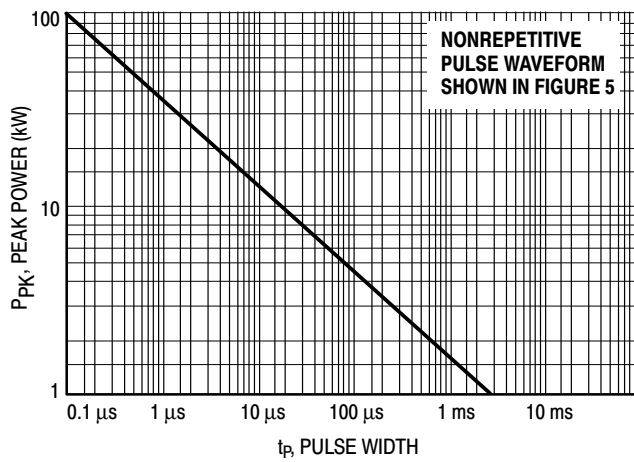
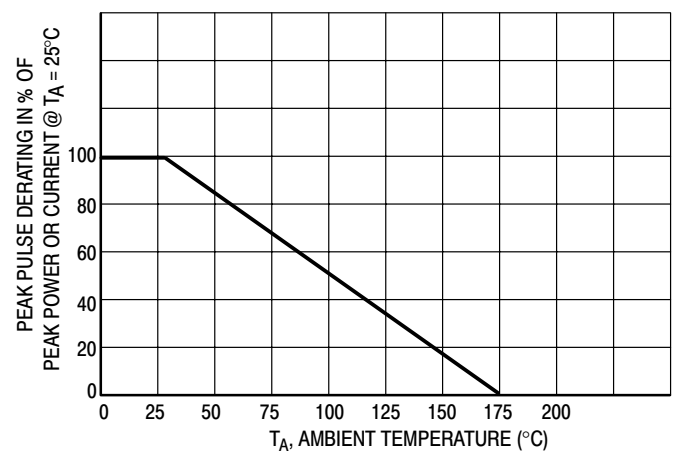
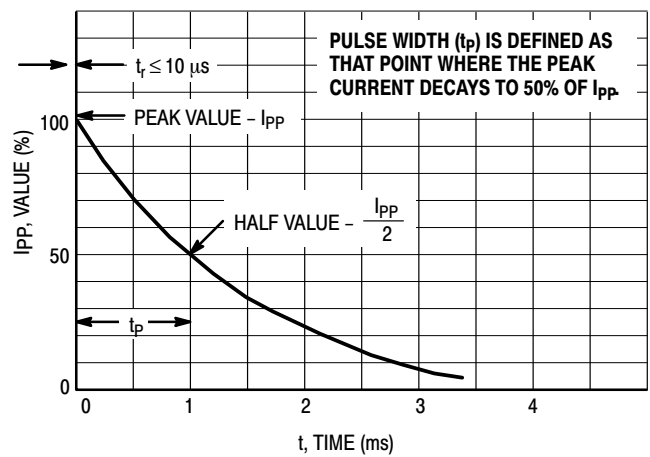
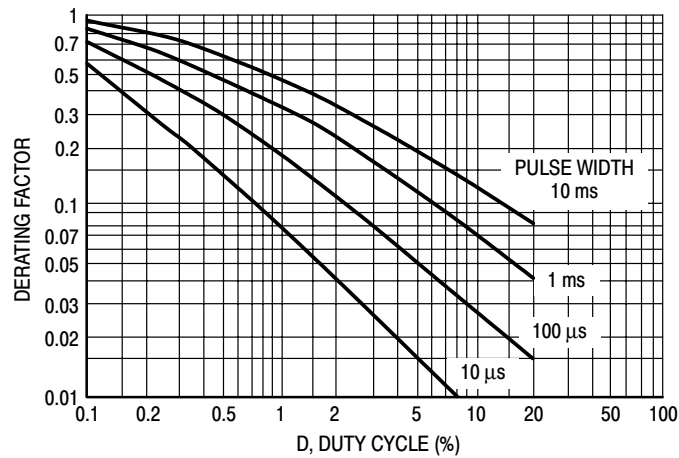

Figure 1. Pulse Rating Curve
Figure 2. Pulse Derating Curve
Figure 4. Pulse Waveform
Figure 6. Typical Derating Factor for Duty Cycle
1. Nonrepetitive current pulse per Figure 4 and derated above  $T_A = 25^\circ\text{C}$  per Figure 2.
- Surge current waveform per Figure 4 and derate per Figures 1 and 2.
The data of Figure 1 applies for non-repetitive conditions and at a lead temperature of 25°C. If the duty cycle increases, the peak power must be reduced as indicated by the curves of Figure 6. Average power must be derated as the lead or ambient temperature rises above 25°C. The average power derating curve normally given on data sheets may be normalized and used for this purpose.
At first glance the derating curves of Figure 6 appear to be in error as the 10 ms pulse has a higher derating factor than the 10  $\mu$ s pulse. However, when the derating factor for a given pulse of Figure 6 is multiplied by the peak power value of Figure 1 for the same pulse, the results follow the expected trend.